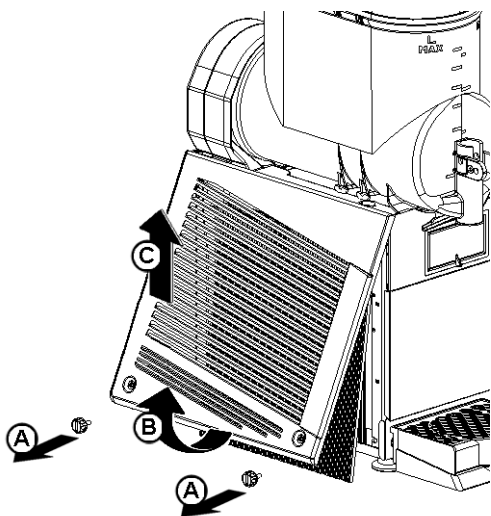

figure 16
**2 Monthly on FBM 1P, FBM 2 and FBM 3 models:** remove the dust from the condenser filter. A blocked filter will reduce performance and could cause compressor failure. Remove the only left panel (from faucet side) unscrewing the two plastic coated screws (see figure 16).